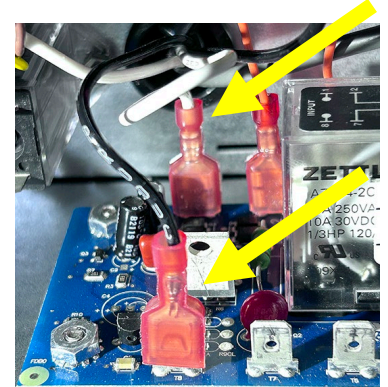

Figure 45
- 48. Attach the smaller black and white wires to the coil side of the time delay relay board (see Figure 45). Use the wiring diagram if necessary on the last page.